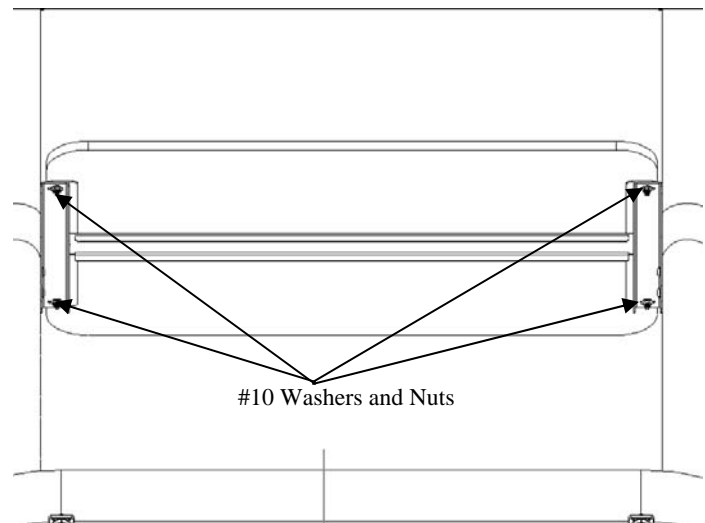

Figure 2
2. Place shelf in desired location and loosely secure shelf using the #10 washers and #10 Nylock nuts (see Figure 2).